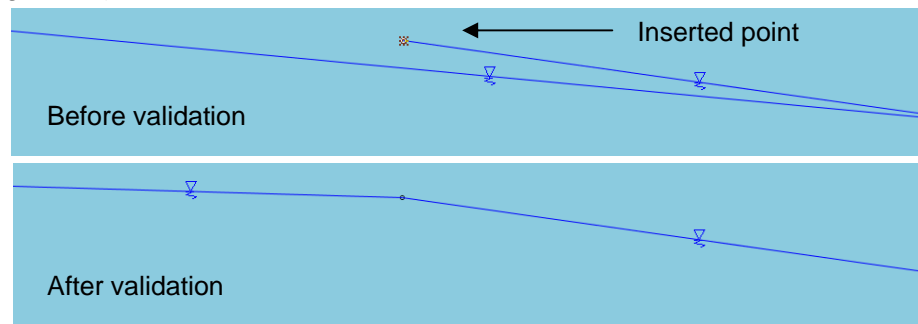

Figure 78: adding a point to an existing groundwater level
- The points of the groundwater level are automatically ordered by increasing X values when validating the dialogue box: if you define a zigzag for the groundwater level (by typing or drawing), it will automatically be "straightened" when validating the dialogue box. In the same way, if you add a point to an existing groundwater level, this point will first seem to be connected to the last point previously defined, but will be ordered after validation of the dialogue box (Figure 78).